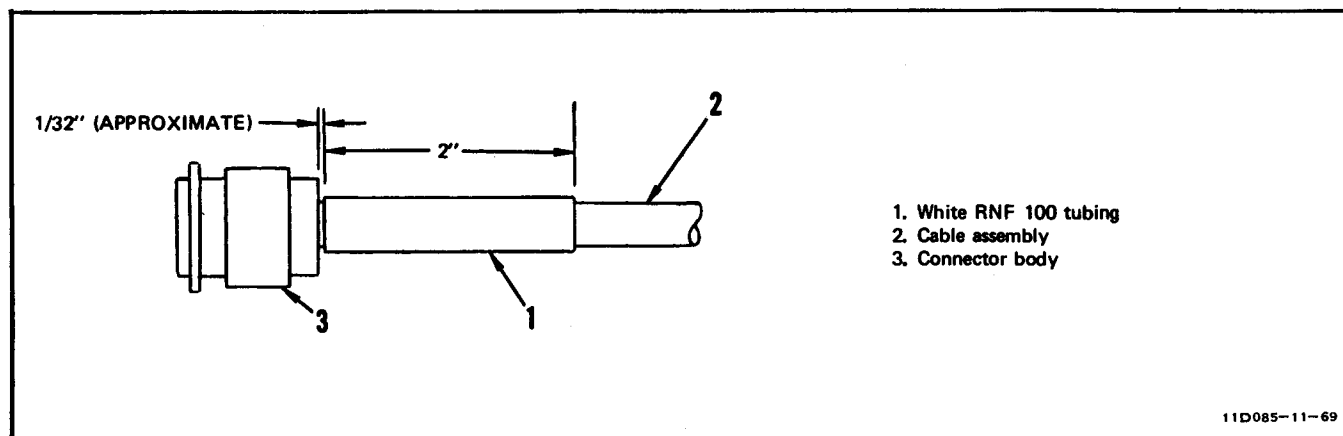

Figure 11-28. Shrinkfit Tubing Installation
d. Install white shrink tubing (1) onto cable assembly (2) with an
approximate gap of 1/32 inch from connector body (3) as shown in figure 11-28, and shrink using heat gun.